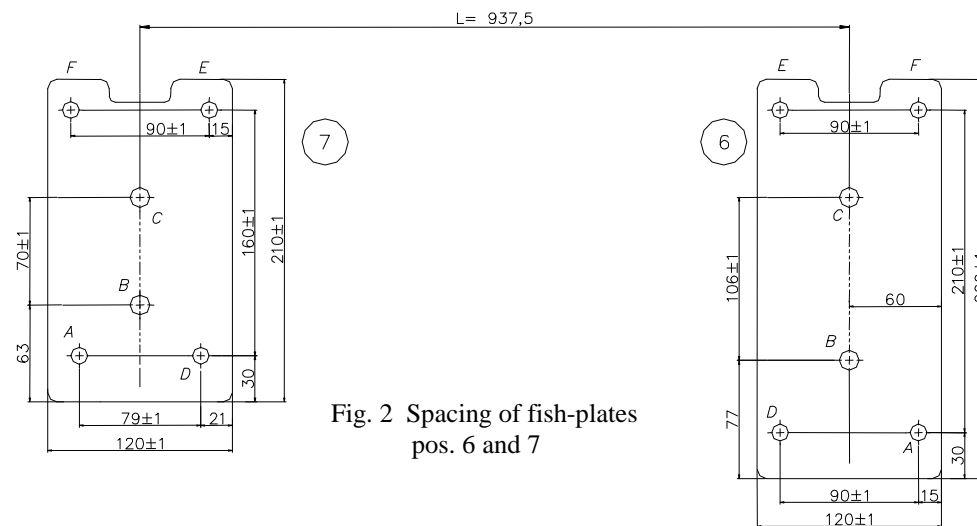

Fig. 2 Spacing of fish-plates
- Inside trunk, on the left and right side put fish-plates 6 and 7 (see figure 2). Next fix it through hole pos. A using bolts M8x30mm (pos. 14) in points originally threaded (remove plastic plugs).
- Arrange fish-plates in accordance to dimensions from figure 2. Next mark points of rest holes. Then drill marked points straight through: bit  $\varnothing 12,5\text{mm}$  holes pos. B and C, bit  $\varnothing 8,5\text{mm}$  holes pos. D, E and F.
- Disassemble both fish-plates. Made holes pos. B and C enlarge from trunk side using bit  $\varnothing 25,5\text{mm}$ ; to enlarged holes put distance sleeves L=62mm (pos. 8).
- Reassemble fish-plates again and in holes pos. B and C put bolts M12x100mm (pos. 10) and in rest of holes put bolts M8x35mm (pos. 14). Bolts M8 fix to the floor using big washers  $\varnothing 25 \times \varnothing 9 \times 2\text{mm}$  (pos. 17) and spring washers.
- Underneath the car put side brackets (pos. 4 and 5) on bolts M12 protruding from the trunk and fix it loosely.
- Fix handle of the muffler through hole pos. H using bolt M8x60mm (pos. 13), use distance sleeve L=30mm (pos. 9).
- Between assembled brackets (pos. 4 and 5) put main bar of the towing hitch (pos. 1) and fix it using bolts M12x35mm (pos. 12).